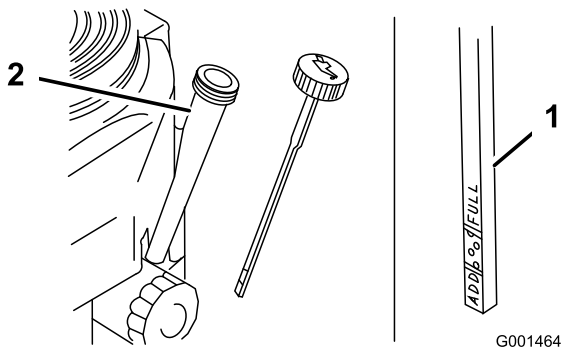

Figure 16
3. Clean around the oil dipstick (Figure 16).
4. Remove the dipstick and wipe the end clean (Figure 16).
5. Slide the dipstick fully into the dipstick tube without threading it into the filler neck (Figure 16).
6. Pull the dipstick out and look at the end. The oil should be between the Add and Full marks (Figure 16).